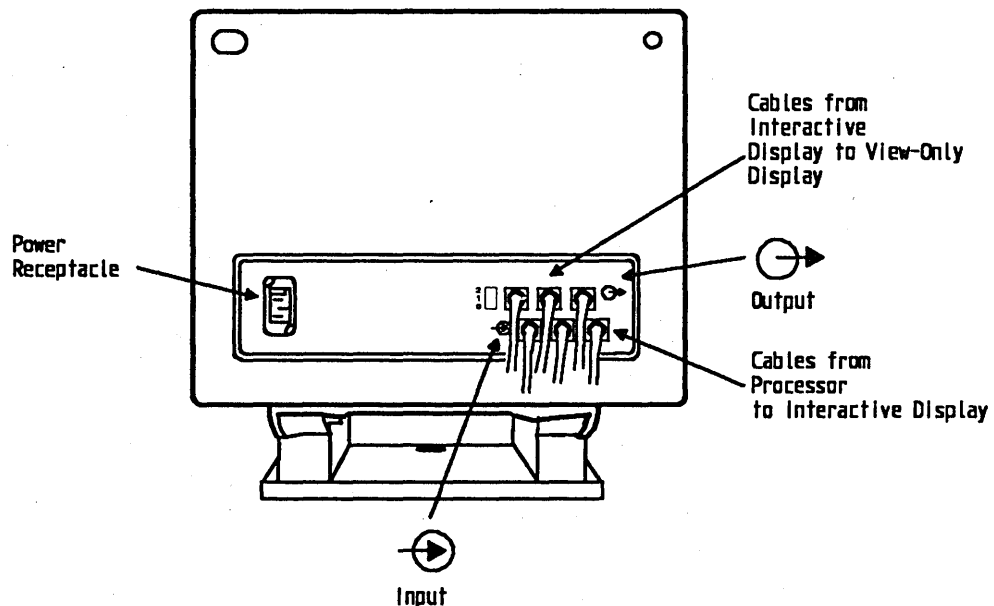
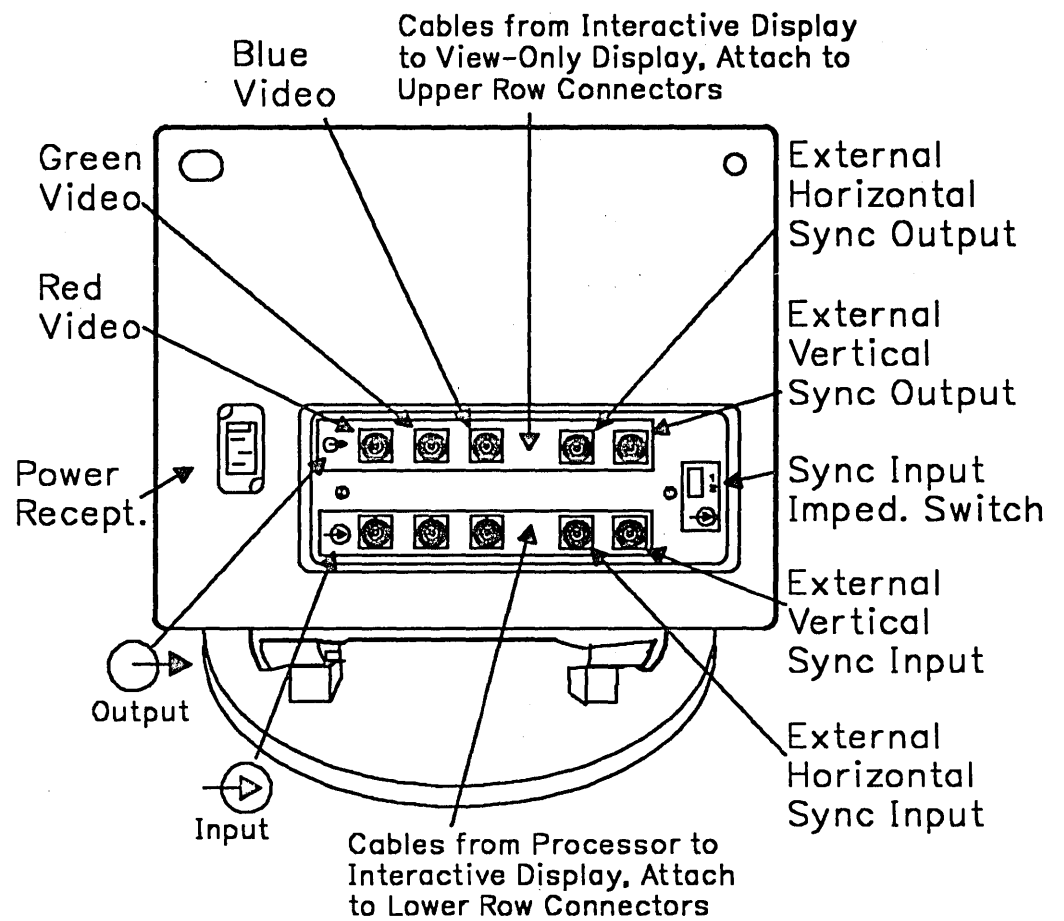

Figure 4. Power receptacle and cable connections on the 6091-023 display
Figure 5. Power receptacle and cable connections on the 6091-19i and the 6091-016 displays
- Refer to Figure 4 if you have a 23" display.
- Refer to Figure 5 on page 9 if you have a 16" or 19" display.
1. Attach the red, green, and blue, and (if needed) the external horizontal and vertical sync video cables from your processor to the bottom row of connectors on the back of the interactive display. Look for the input cable markings. (See Figure 4 or Figure 5 on page 9 for the input symbol you need to locate.)
2. If you are also using view-only displays, connect video cables to the top row of connectors on the back of each display. Look for the output cable markings. (See Figure 4 or Figure 5 on page 9 for the output symbol you need to locate.)
1. Plug the power cord into the power receptacle at the back of the display. See Figure 4 on page 8 and Figure 5 on page 9 for the location of this receptacle.